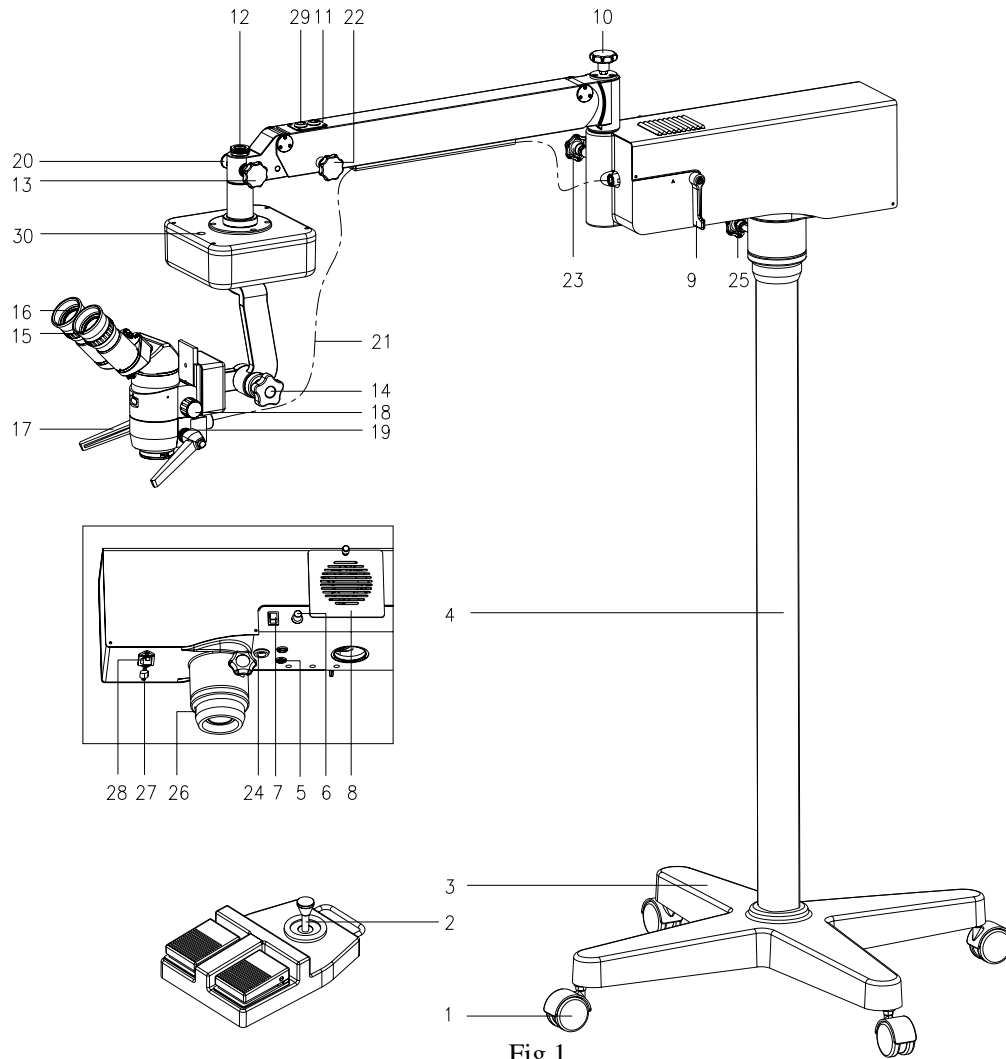
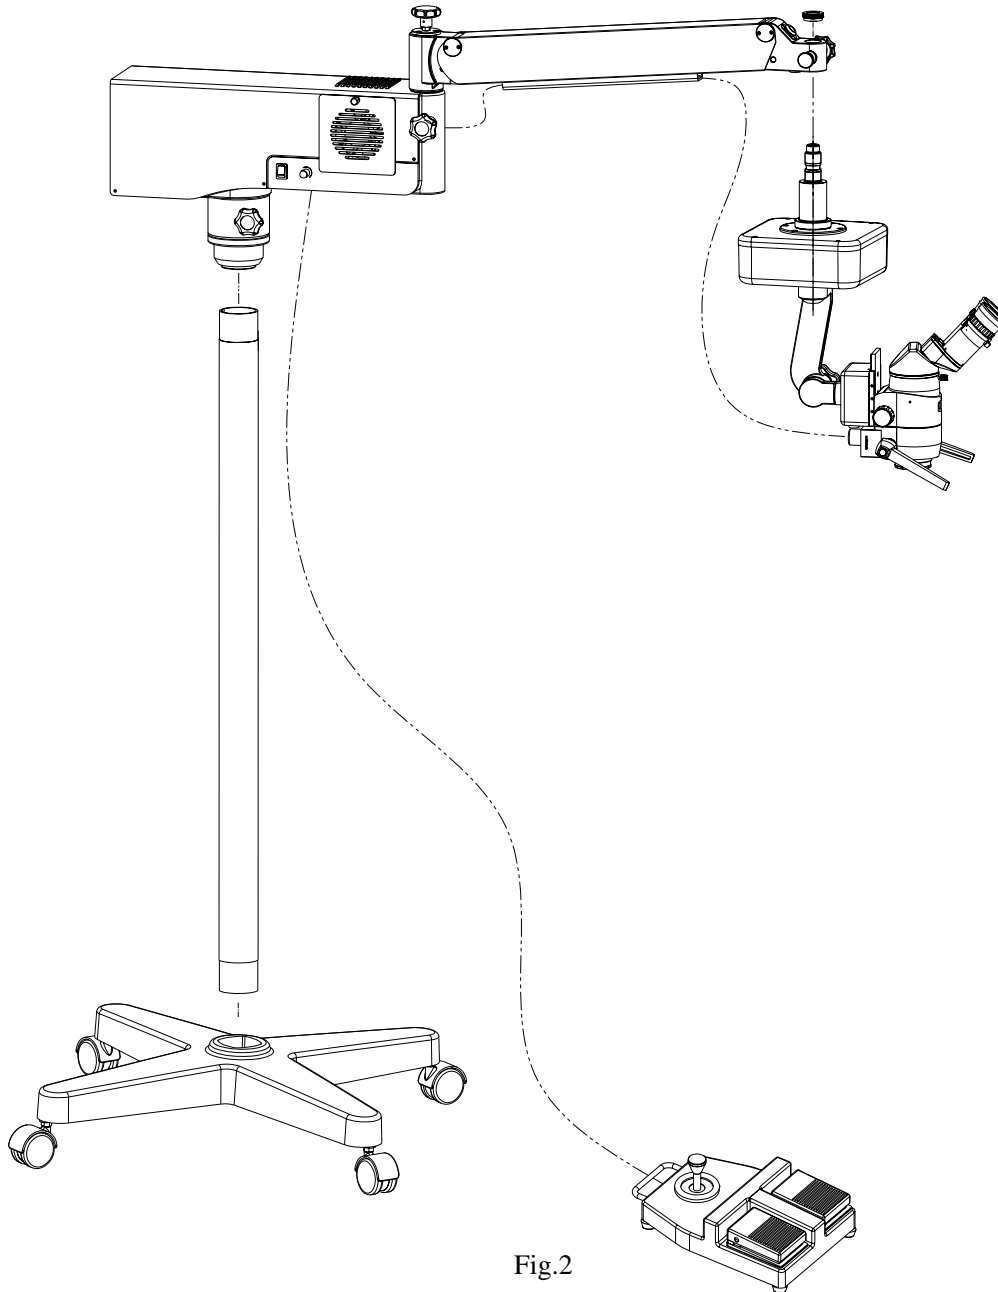

Fig 1
Fig.2
- (1) Please take out the floor stand [3] from the package, lay it on the ground.
- (2) Take out the stand pillar [4], turn out the inner hexagonal bolt and gasket of its end, insert it into the hole of the floor stand [3], and then turn the stand pillar [4] to make the column pin on the base support clip in the groove on the end of stand pillar, assemble in order the unassembled gasket、spring gasket、inner hexagonal blot, and fasten it firmly with 10mm hexagonal wrench (Fig.2).
Take out the light source box while not loosen the tightening bolt of the star knob [22] in order to avoid the small arm rebounding and harm people, set the bottom of the light source box into the stand pillar [4] and insert the inner hexagonal tightening blot [26] into the groove of the end of stand pillar [4] and fasten it firmly with 6mm hexagonal wrench(Fig.2).
Remove the fixing nut [12]. Pull out the safety pin [20] with one hand. Hold the connecting part of microscope with another hand. Insert the shaft into the hole of the arm from the bottom to top. Then release the safety pin [20], it will spring back to the groove on the shaft. Finally fasten the fixing nut [12] (Fig. 2).
Insert the manipulating handle [17] into the holes on the two sides of the microscope holder respectively. The proper handle position should be down to an angle of 40° (as shown in Fig. 1). Then fasten the fixing block circle on the project plane of the two sides of the microscope and make the manipulating handle not to move axial direction (Fig. 2).
Insert one end of the fiber optics [21] into the side hole of the light source box and insert another end into the hole behind the microscope (Fig. 2).
- (1) First connect the 14-pin plug on the foot control switch [2] with the 14-pin socket [24] under the power controlling box (Fig.1). Pay attention to align marks for alignment on both the plug and socket. Then connect power cable with mains outlet and switch on the power switch [7]. Then you can start foot control.
- (2) For fine focusing, step down the left pedal of the foot control switch, the microscope